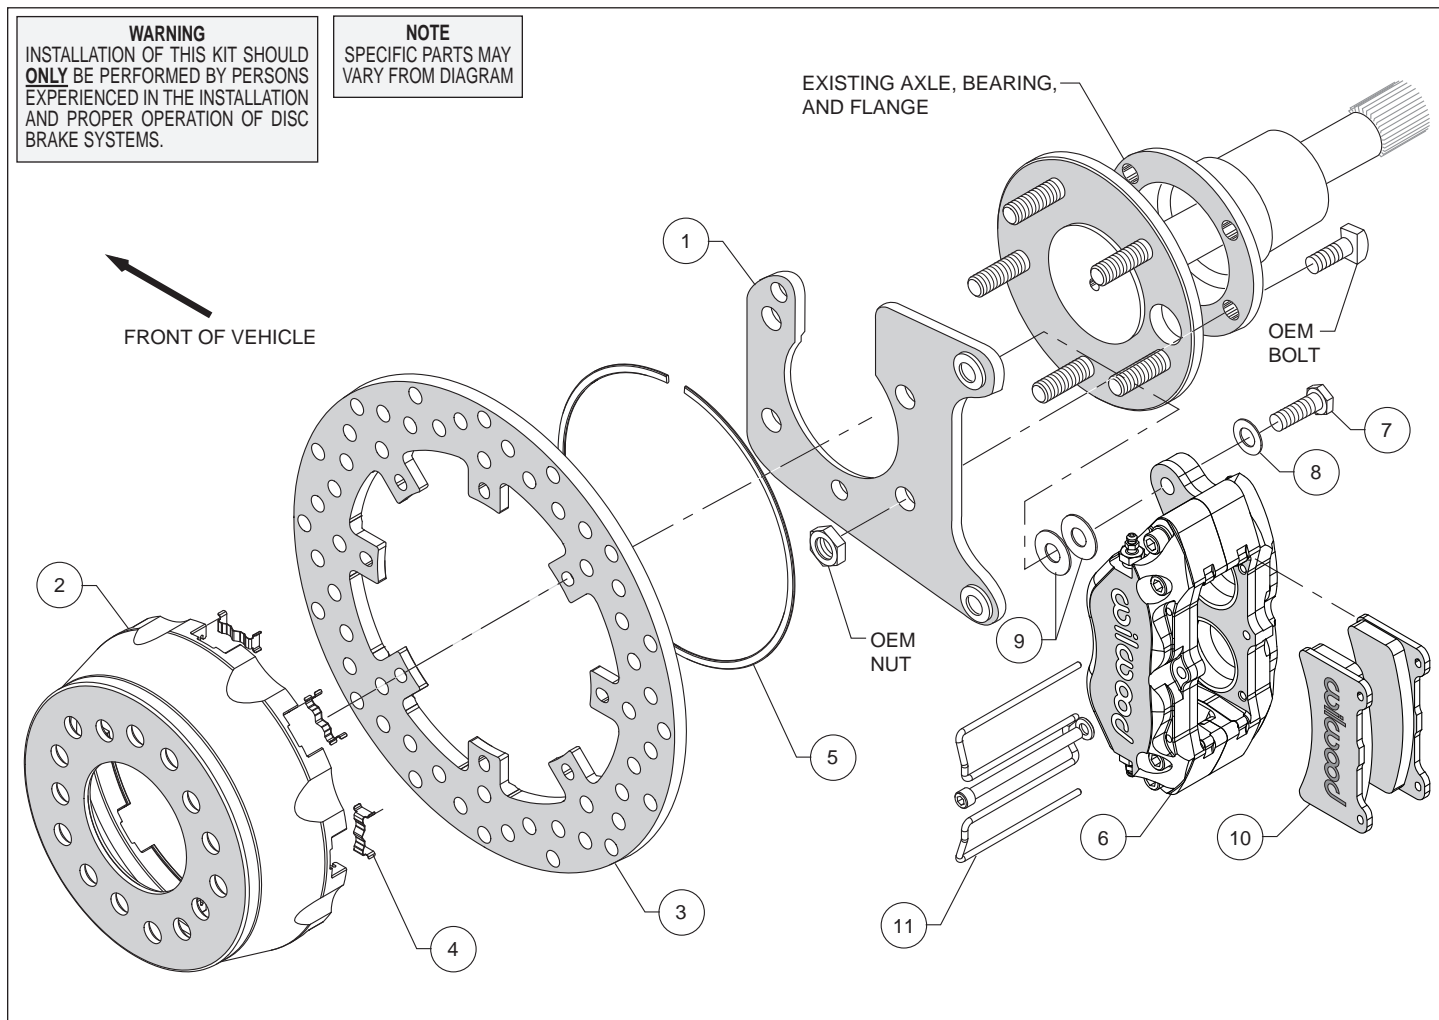
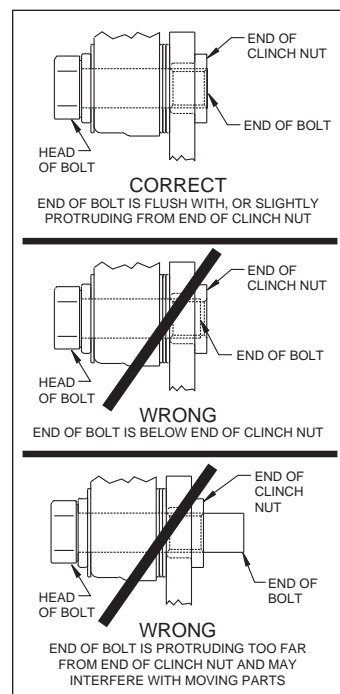

Figure 1. Typical Installation Configuration
Figure 5. Clinch Nut Engagement Diagram
Assembly Instructions (numbers in parenthesis refer to the parts list and Figure 1 on the preceding pages): **CAUTION:** All mounting bolts must fully engage clinch nuts. Be sure to check that all bolts are either flush or protruding through flanged side of clinch nut after shimming, Figure 5.
- Install the caliper mounting bracket (1), with the slot for the axle pointing upward, to the housing flange using the OEM bolts and nuts, as shown in Figure 1 and Photo 1. Ensure that the heads of the clinch nuts are facing outboard, Photo 1. Apply red *Loctite*® 271 to the OEM bolt threads and torque to OEM specifications.
- Insert the dynamic mount wear clips (4) into the slots in the hat (2) making sure the tabs snap in place, Photo 2. Orient the rotor (3) as shown in Figure 1 and Photo 3, with the flush mount tab side facing the hat. Attach the rotor to the hat using snap ring (5) by pushing down on the rotor and installing the ring into the groove in the hat, as shown in Photo 4. Ensure that the ring is fully engaged in the groove.
- Align the correct hole pattern in the hat (2) with the axle stud pattern and slide the hat/rotor assembly onto the axle hub. **NOTE:** The hat must fit flush against the axle flange or excessive rotor run out may result. Install three lug nuts (finger tight) to keep the hat/rotor in place while continuing with the installation. **NOTE:** Some OEM and aftermarket axles come with stud sizes larger than 0.50" diameter. Verify stud size, and if necessary, have a qualified machine shop drill the hats to the correct size.
- NOTE:** Please reference the caution statement at the beginning of the assembly instructions. Mount caliper (6) onto the mounting bracket (1) using bolts (8) and washers (7), as shown in Figure 1. Initially place two .035" thick shims (9) on each bolt between the caliper and the bracket, Photo 5. Temporarily tighten the mounting bolts and view the rotor (3) through the top opening of the caliper. The rotor should be centered in the caliper, Photo 6. If not, adjust the caliper by adding or subtracting shims between the bracket and the caliper. Always use the same amount of shims on each of the two mounting bolts. **NOTE:** The end of each bolt must be flush with or slightly protruding from the head of the clinch nut. If necessary, place spare shims between washer and caliper mounting ear to achieve the proper clinch nut engagement, as shown in Figure 5. Once the caliper alignment and clinch nut engagement are correct, remove the bolts one at a time, apply red *Loctite*® 271 to the threads, and torque to